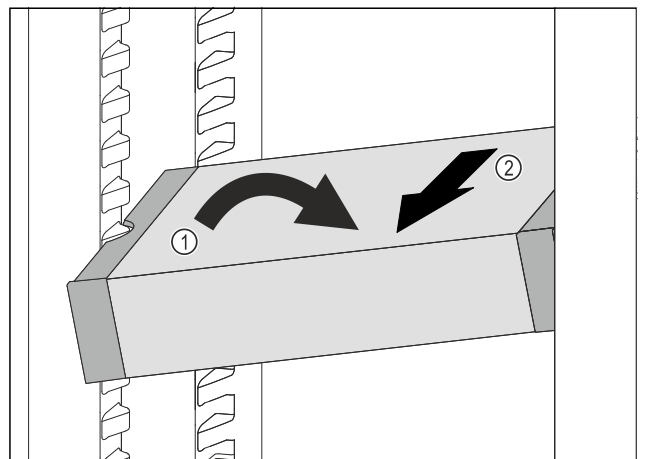

Fig. 111
- Set VarioSafe in refrigerator compartment at an angle. Fig. 111 (1)
- Take VarioSafe out to the front. Fig. 111 (2)